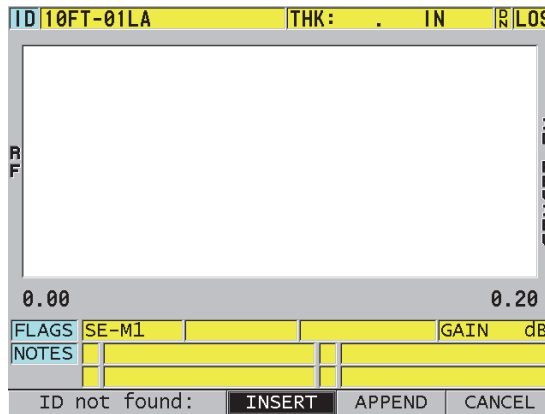

Figure 11-29 The message when the edited ID is not in the database
6. When the edited ID is not in the database, the help text bar message shown in Figure 11-29 on page 219 appears, select **INSERT** to insert the new ID before the active ID.